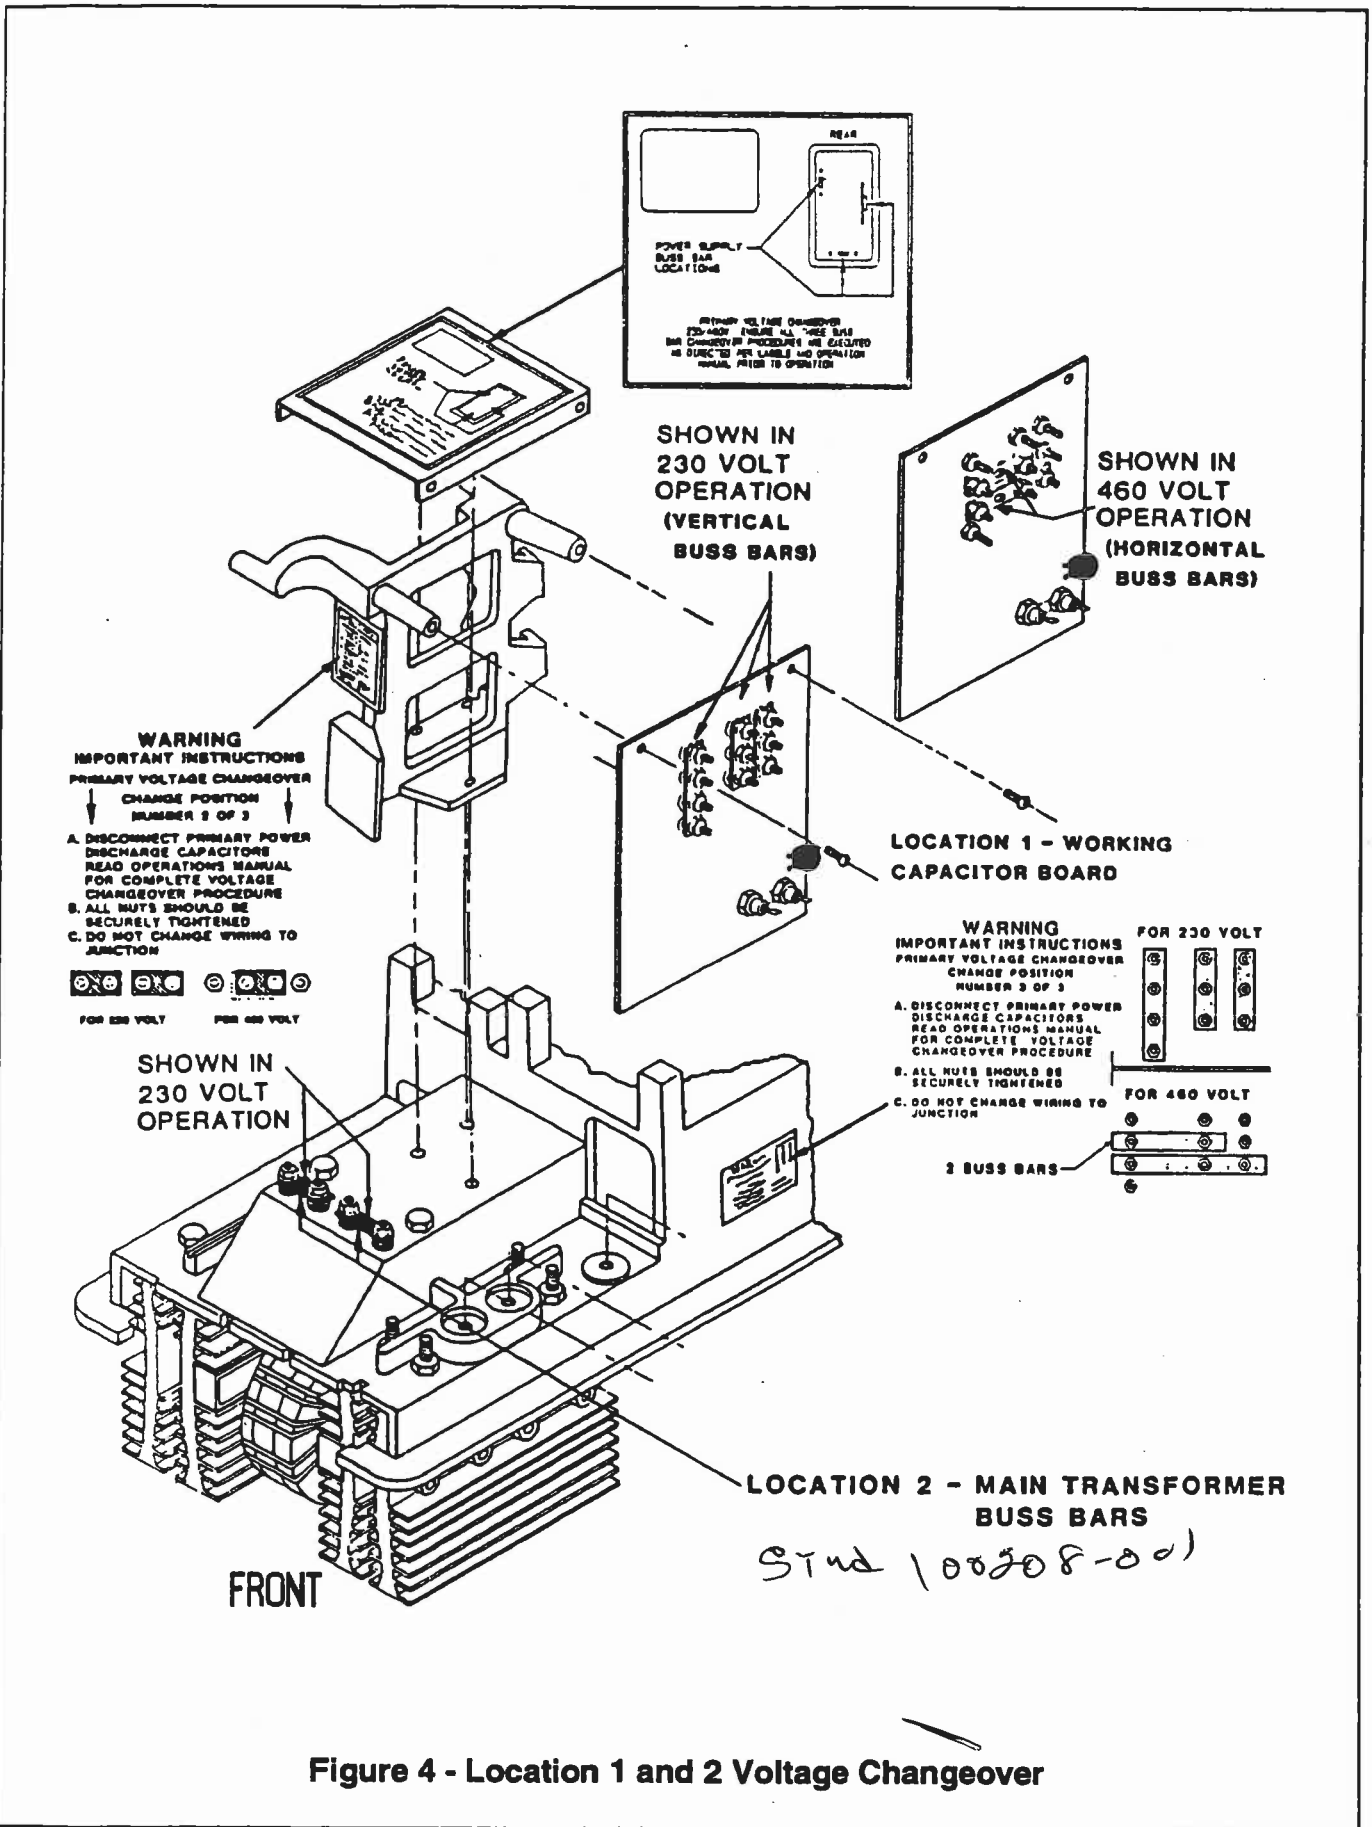

Figure 4 - Location 1 and 2 Voltage Changeover
1. Working capacitor board. Right front side of unit, see Figure 4, Location 1.
2. Copper buss bars for main transformer. Front of unit, see Figure 4, Location 2
3. Identify the voltage change-over instruction labels for the copper buss bars and working capacitor board as shown in Figures 4 and 5.
1. Locate the working capacitor PC board as shown in Location 1 of Figure 4.
1. Locate the instruction label for the copper buss bars shown in Location 2 of Figure 4.